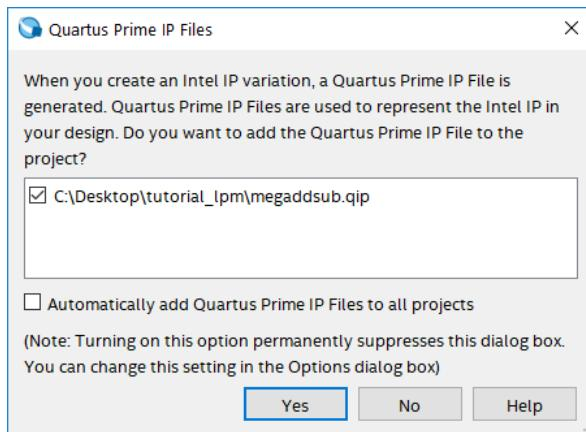
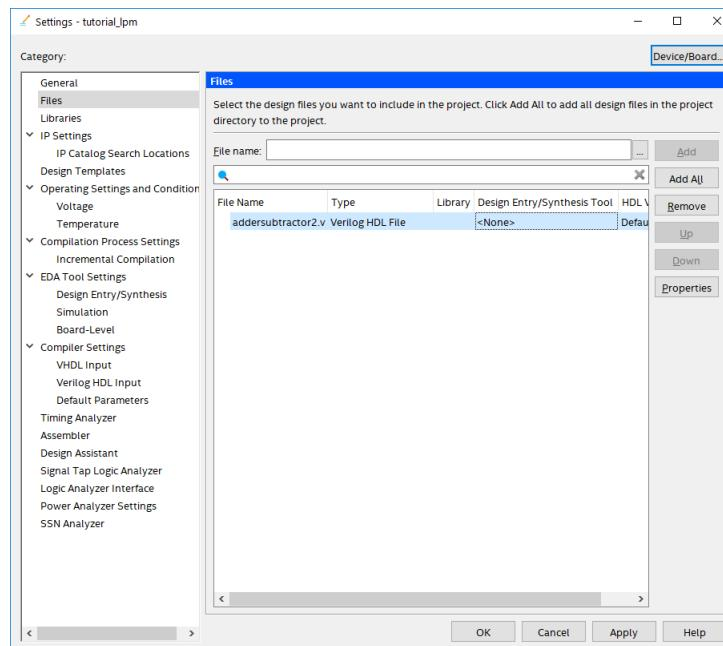
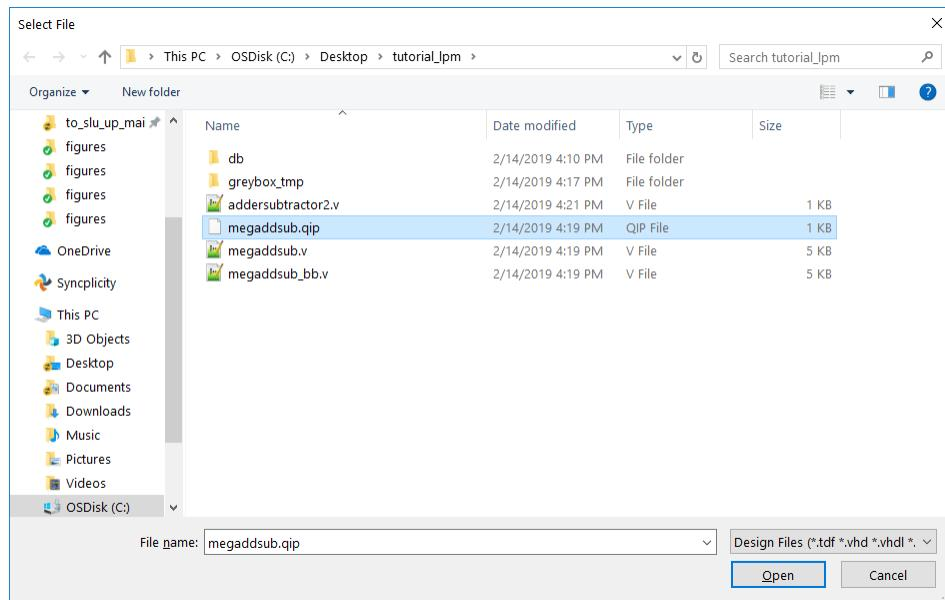

Figure 12. Add the new files to the project.
Figure 15. Inclusion of the new file in the project.
Figure 16. Specify the *megaddsub.qip* file.
10. The box in Figure 12 may pop up. If it does, press Yes to add the newly generated files to the project.
If the *megaddsub.qip* file has not been included in the project (e.g. if you answered No in the box in Figure 12, or possibly if the box did not show up at all), you need to include it manually. To include the *megaddsub.v* file in the project, select Project > Add/Remove Files in Project to reach the window in Figure 15. The file *addersubtractor2.v* should already be listed as being included in the project. Browse for the other files by clicking the button ... to reach the window in Figure 16. Select the file *megaddsub.qip* and click Open, which returns to the window in Figure 15. Click Add to include the file and then click OK. Now, the modified design can be compiled and simulated in the usual way.